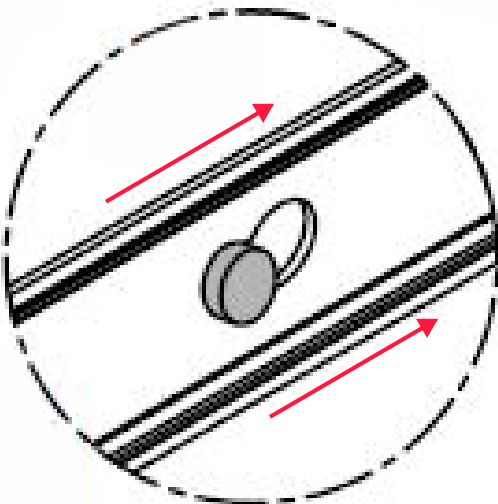

Figure 4.14 Securing the standoff over the keyhole
2. Slide the rail towards the back of the enclosure to secure the standoff on the smaller section of the keyhole to lock the rail in place, which is accompanied by an audible click. Refer to Figure 4.14.